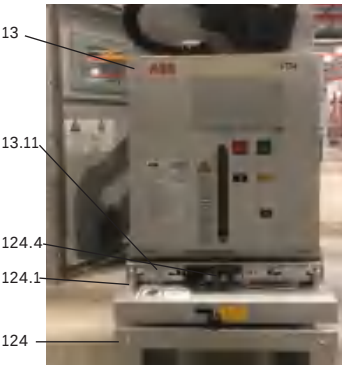

Figure 66 Withdrawable part standing on service truck and secured in the catches
- Turn the crank clockwise (approx. 20 turns) until the stop is reached and the withdrawable part is in the service position (Fig. 66)